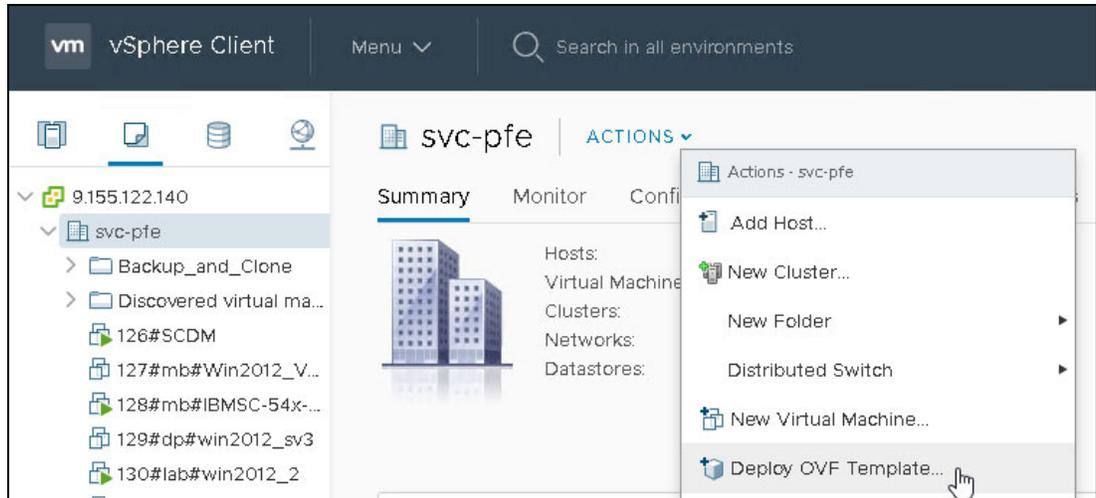

Figure 3-6 Deploy OVF Template menu
2. Log on to the vCenter manager (vSphere client) and select the cluster in where you want to deploy the OVA. From the **Actions** menu, select **Deploy OVF Template**, as shown in Figure 3-6.